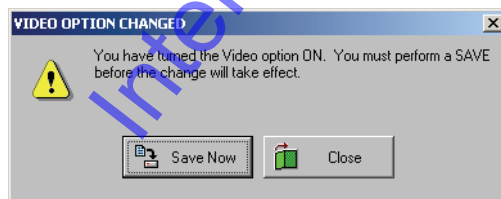

Figure 15-2: Video Option Changed - ON
2. To enable the Video feature, click on the **Video ON** check box. A check mark appears in the box. Because the changes required to implement the Video feature make major changes to the *Doors* program and its supporting databases, a confirmation window appears (see Figure 15-2).